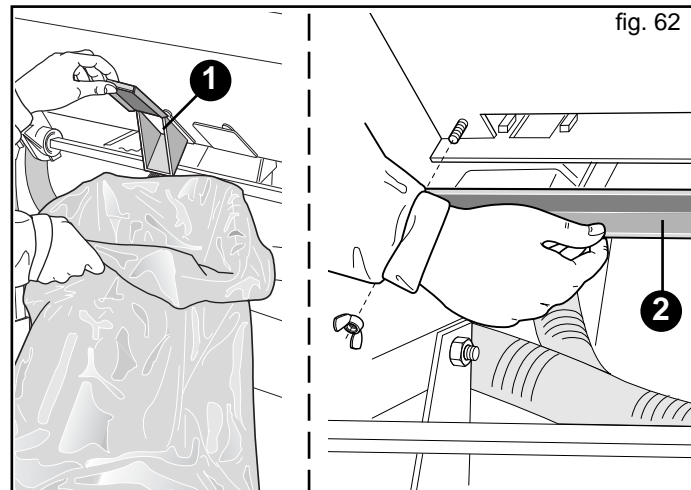

fig. 62
- Carry out road transfers with the hoppers empty. Unscrew the discharge pipe caps remove any residual product (1, Fig. 62)
- On completion of the work, the hopper should be carefully cleaned. This particularly applies to the fertilizer hoppers. Unscrew the discharge pipe caps remove any residual product (1, Fig. 62), take off the cleaning door (2, Fig. 62) and wash thoroughly with water. Adhere to the ecological standards applicable for the disposal of polluting liquids.